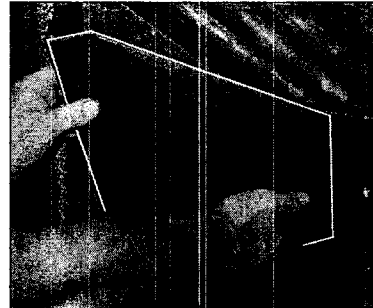

Figure 9
10. Remove the side bricks. **Figure 9.**